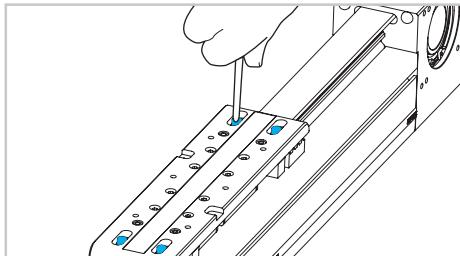
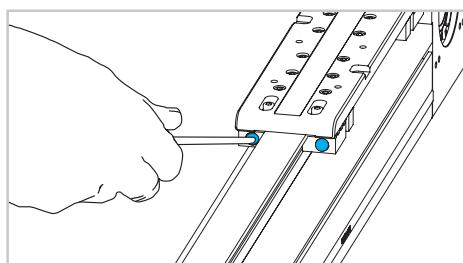
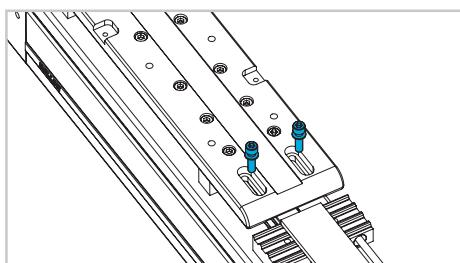
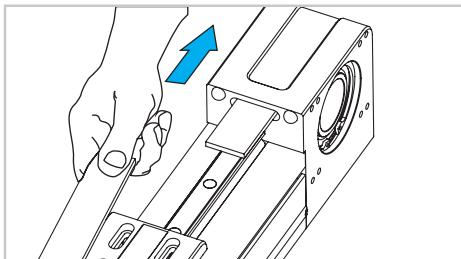

Fig. 4
Fig. 3
Fig. 5
Fig. 6
- 2) Remove the belt tensioner untightening both the vertical and horizontal screws on the carriage (Fig. 3 - Fig. 4 - Fig. 5)
- 3) Remove the driving belt from both ends of the carriage (Fig. 5) and pull off (Fig. 6). To re-assemble the belt, carry out the same operations in the opposite way repositioning the belt tensioner at the initial distance X.